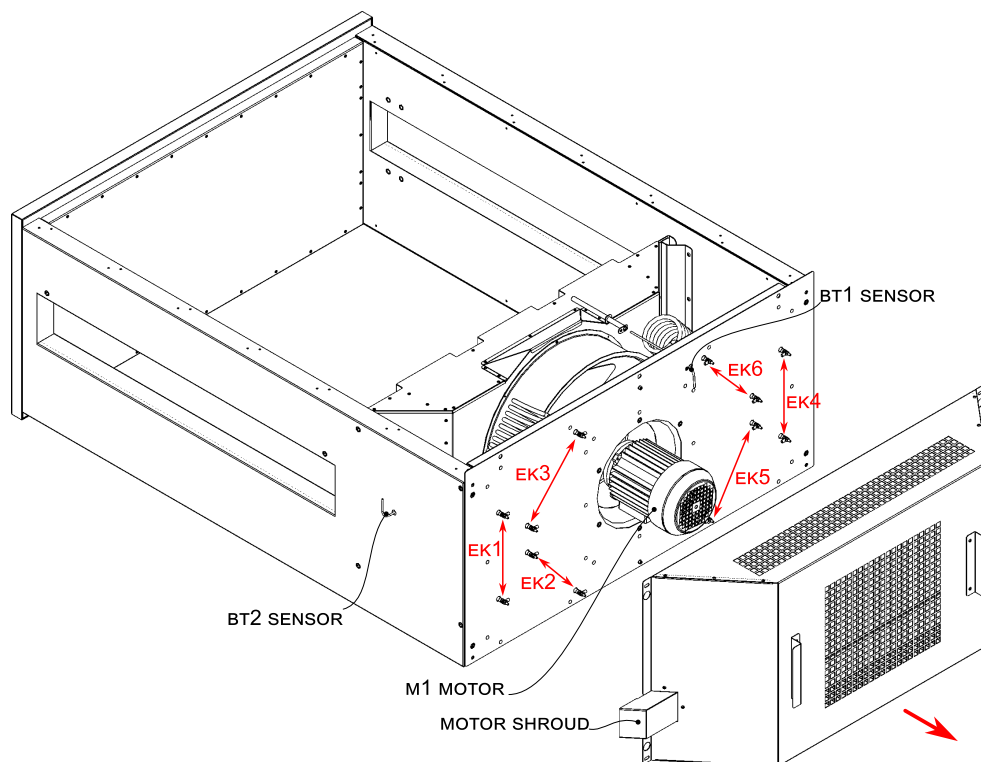

Figure 16
6. Remove **motor shroud**, see Fig. 16.